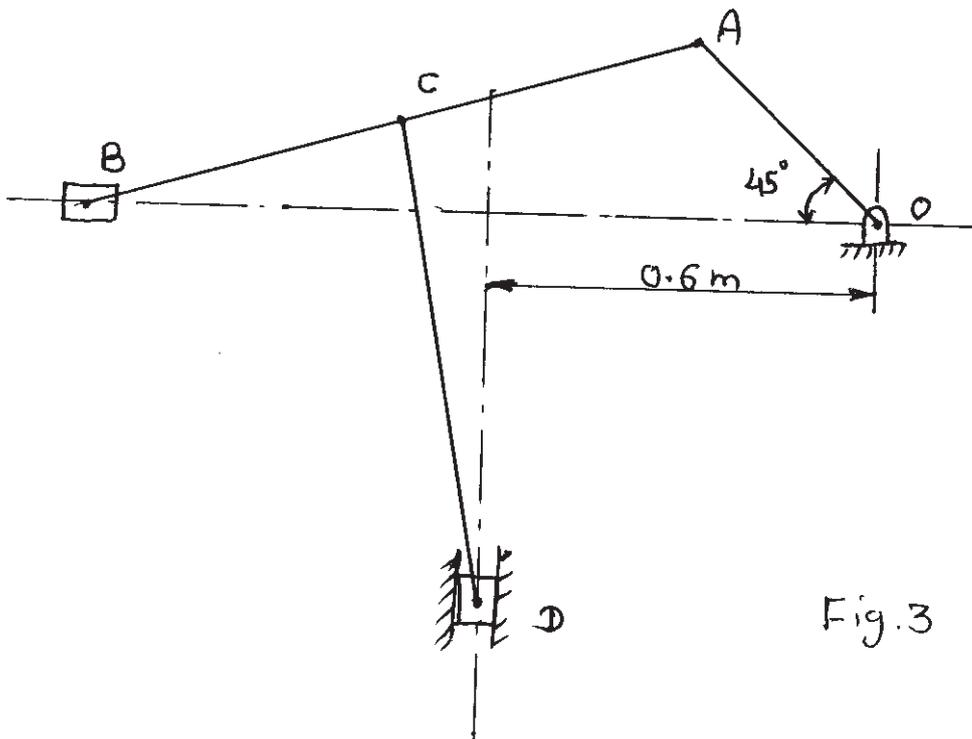

Fig.3
b) The lengths of various links of mechanisms shown in fig.3 are $OA = 0.3$ m, $AB = 1$ m, $CD = 0.8$ m & $AC = CB$. Crank OA rotates at 60 rpm clockwise, Determine for the given configuration. [12]